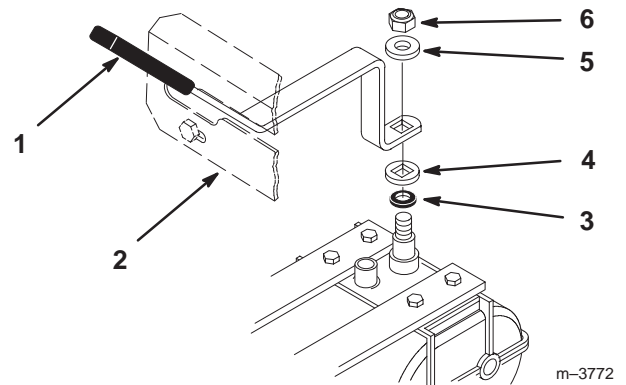

Figure 10
- Slide shift lever through control panel and align mounting hole in lever with square on transmission shaft. Secure lever to transmission with previously removed spring washer and locknut (Fig. 10).